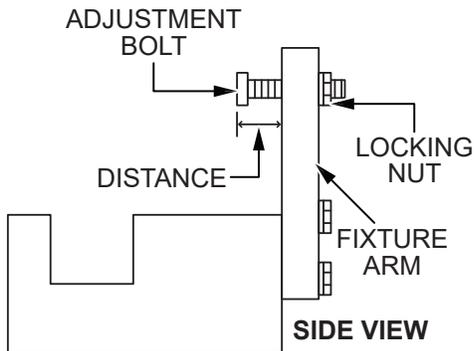

**Figure 51. Checking Trowel Arm Flatness**
- Use a thick steel plate, granite slab, or any surface which is true and flat (Figure 51), to check all six sides of each trowel arm for flatness.
- Check each of the six sides of the trowel arm (hex section). A feeler gauge of .004 inch (0.10 mm) should not pass between the flat of the trowel arm and the test surface along its length on the test surface. See Figure 51.
- Check the clearance between the round shaft and the test surface, as one of the flat hex sections of the arm rests on the test surface (Figure 51). Rotate the arm to each of the flat hex sections and check the clearance of the round shaft. Use a feeler gauge of 0.005 inch (0.127 mm). Each section should have the same clearance between the round of the trowel arm shaft and the test surface.